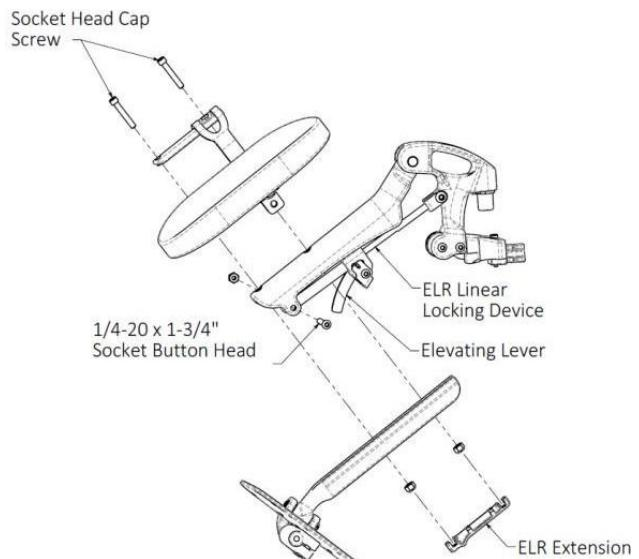

Fig. 5 Elevating Leg Rest Footrest Height Adjustment.
1. Loosen and remove the $\frac{1}{4}$ -20 x 1-3/4" Socket Button Head which holds the ELR's linear locking device, shown in Figure 5.